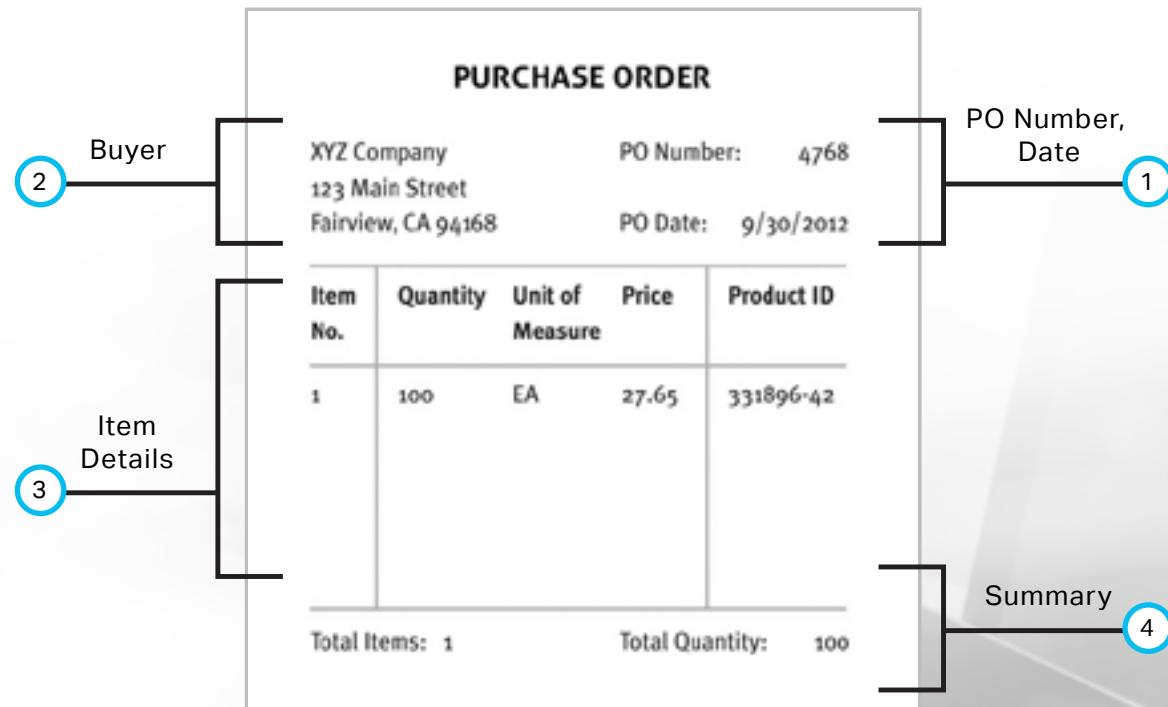

Figure 13: Purchase Order Sections
If you were filling out information on a Purchase Order, you would expect to see groups of related data. For example, see Figure 13, which shows a paper purchase order in which only one item is being ordered. Note that there are four sections, each providing a different set of information: In an EDI document, each section is described by one or more segments; each segment consists of one or more data elements. Each segment begins with a segment identifier (e.g., ST, BEG, N1, in ANSI; UNH, BGM, DTM in EDIFACT) that describes the type of data elements that follow. The data elements within each segment are separated by a data element separator, such as an asterisk(\*) or a plus sign(+).
(The numbers (1) to (4) correspond to the numbered sections in Figure 13.)